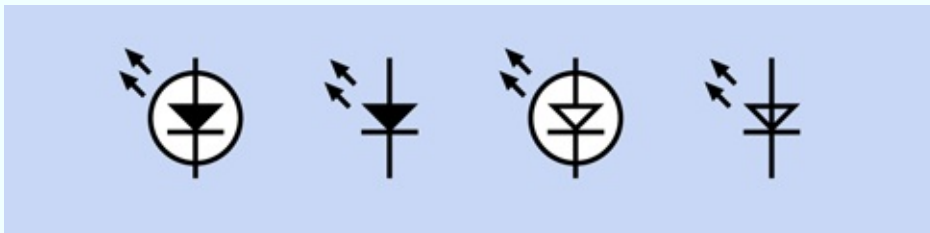

Figure 2-47. Four ways of representing an LED. They are functionally identical.
6. Light-Emitting Diode (LED). Figure 2-47 shows four variants of a symbol representing an LED. The meaning is the same, regardless of whether a circle is included, and regardless of whether the triangle is solid or open. The white highlight in the circle is added in this book for clarity, but is not used elsewhere. LED symbols may be oriented in any direction, for convenience in drawing a circuit. Arrows also may point in any direction.